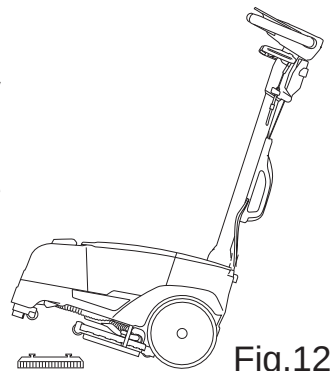

Fig.12
- Pull back on the handle to elevate the front part of the machine, position the brush cowl directly over the brush, and proceed to lower the machine (fig. 12).
- Pull back on the handle to elevate the front part of the machine (fig. 12).